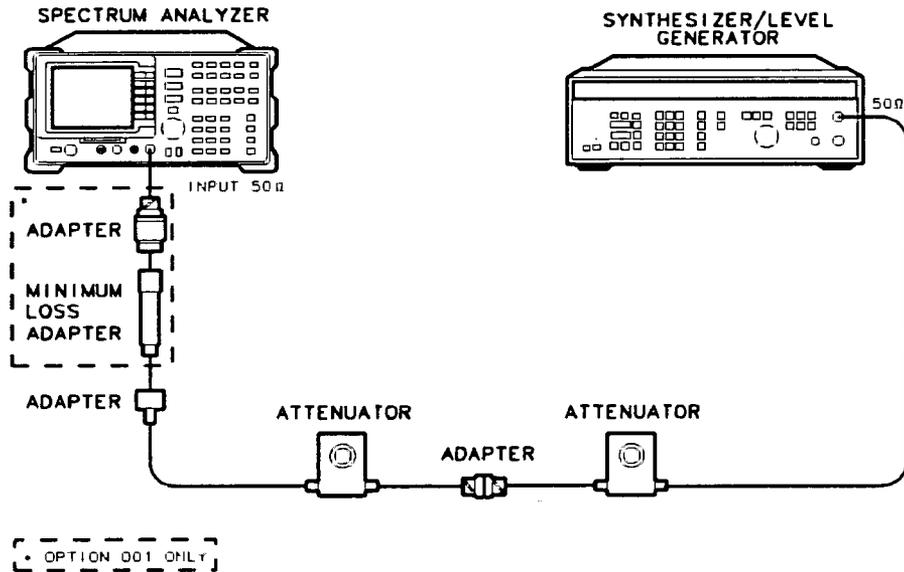

Figure 3-7. Scale Fidelity Test Setup
2. Connect the equipment as shown in Figure 3-7. Set the HP 355D to 10 dB attenuation and the 355C to 0 dB attenuation.